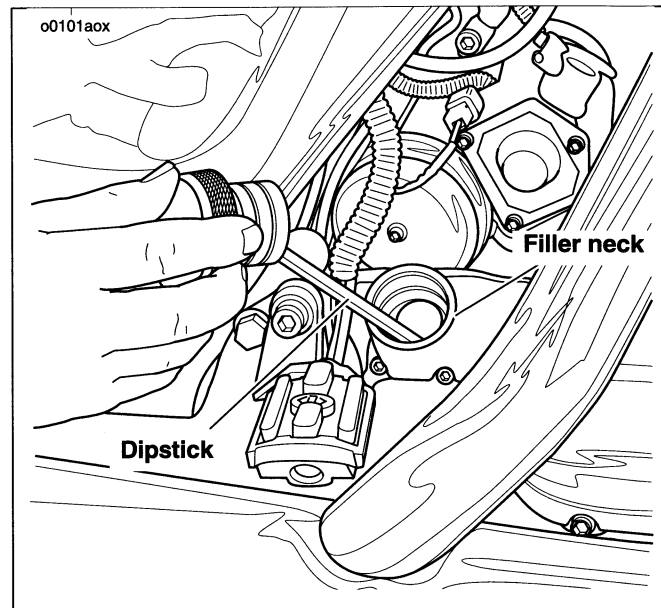

Figure 58. Dipstick Location
1. See Figure 58. With the vehicle resting on the jiffy stand on level ground, wipe off the dipstick and insert it back into the oil pan with the plug pushed **completely** into the fill spout.
3. See Figure 58. Wipe off the dipstick and insert it back into the oil pan with the plug pushed **completely** into the fill spout.